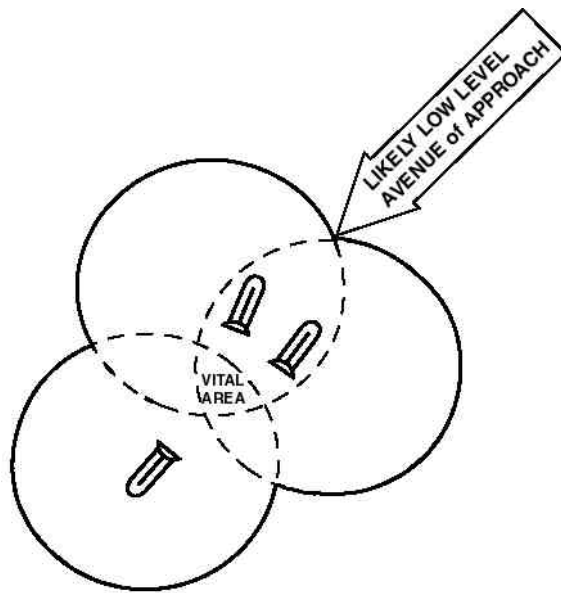

Figure 3-7. LAAD Weighted Coverage.
- | **Weighted Coverage.** Weighted coverage is achieved by concentrating teams toward known enemy locations, unprotected unit boundaries or likely enemy avenues of approach (see fig. 3-7).